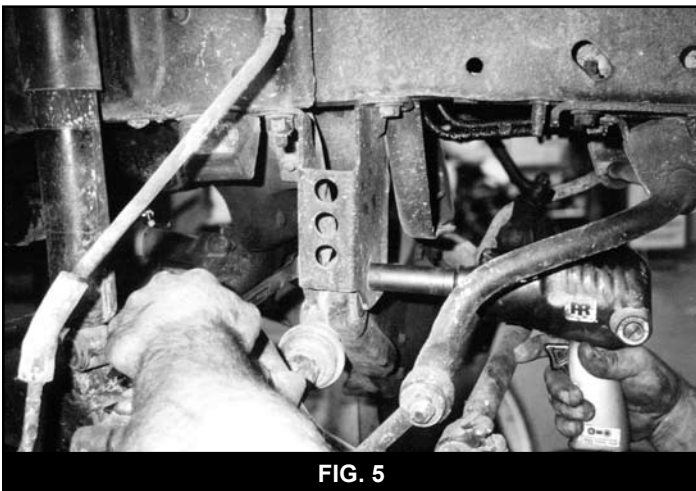

FIG. 5
9. Remove the existing driver's side axle pivot bracket. **Note: Located on the passenger side.** Remove pivot bolt and the five upper bolts and remove the bracket. (Fig. 5)